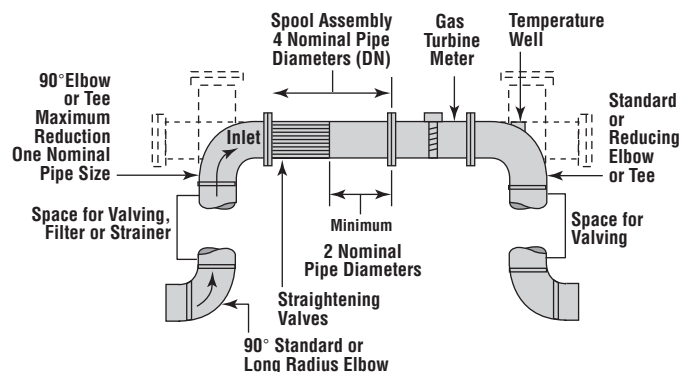

Figure 2
- 2. Off-Set, Short Coupled** Turbo-Meters may be installed in short-coupled sets as illustrated in Figure 2. Note that the flow-restricting devices must be installed in the vertical riser and that a 90° fitting must be used at the inlet to the meter run. This fitting may be an elbow or a tee. A straight run of pipe, equal in ID to the meter size and four diameters long, as well as equipped with straightening vanes at the inlet end, is attached to the inlet side of the meter.